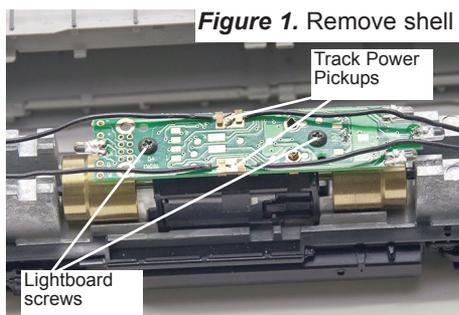

Figure 1. Remove shell
1. Carefully remove the locomotive's shell from the frame. Note the orientation for proper reinstallation. (**Figure 1**)
2. Remove the four track power pick-up wires clipped to the lightboard at mid point (**Figure 1**)